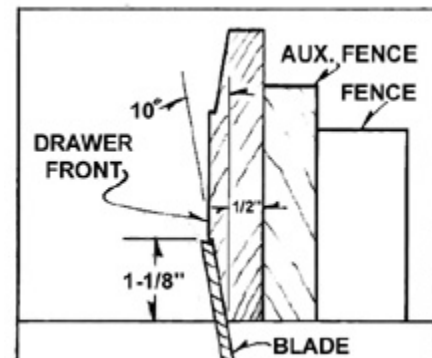

**Figure 9: Valance Layout**
3. Rip along the top edge of the stock to create the valance's (K) final 3" width (see **Figure 9**).
4. Hold the valance (K) in place on the case.
7. Refer to the grid pattern in **Figure 9** to lay out the valance profile.
9. Use glue and brads to mount the completed valance (K) to the case.
10. Miter the quarter-round molding (L) as needed.
11. Apply the molding (L) to the valance (K), side pieces (A), and back pieces (B) with glue and small brads. **NOTE: Because the quarter-round molding (L) is small, you do NOT need to adjust it further to make it comply with the taper.**